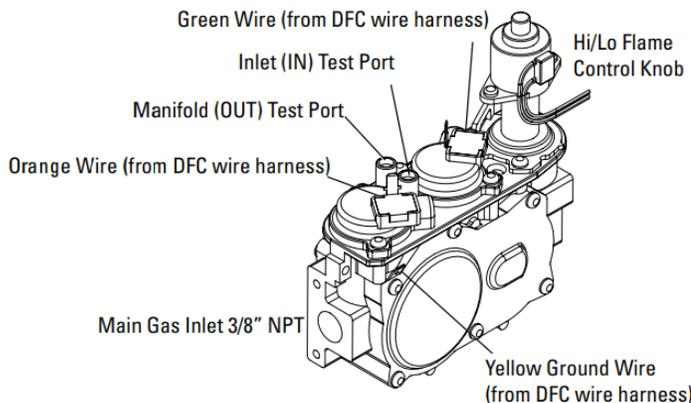

FIGURE 42
- 11) Plug the spade connectors into the module according to the wiring diagram **(Figures 42 & 43)**, insert the pilot tubing into the right side of the valve and, using a wrench, tighten the nut so that the pilot tubing cannot be pulled out.